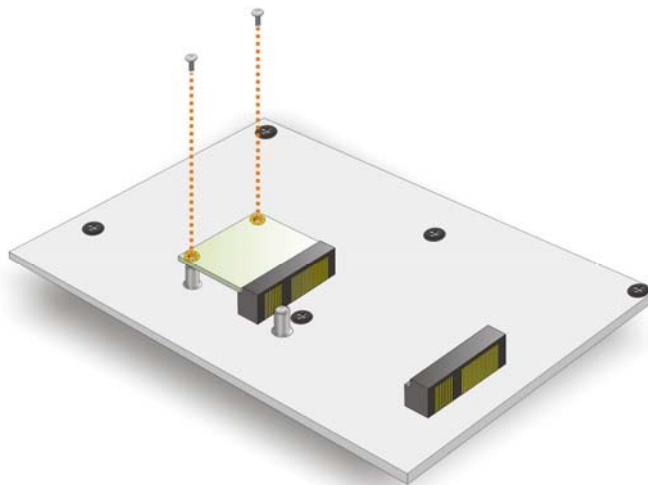

Figure 4-15: Secure the Half-size PCIe Mini Card
Step 4: Secure the half-size PCIe Mini card. Secure the half-size PCIe Mini card with the two retention screws previously removed (Figure 4-15).